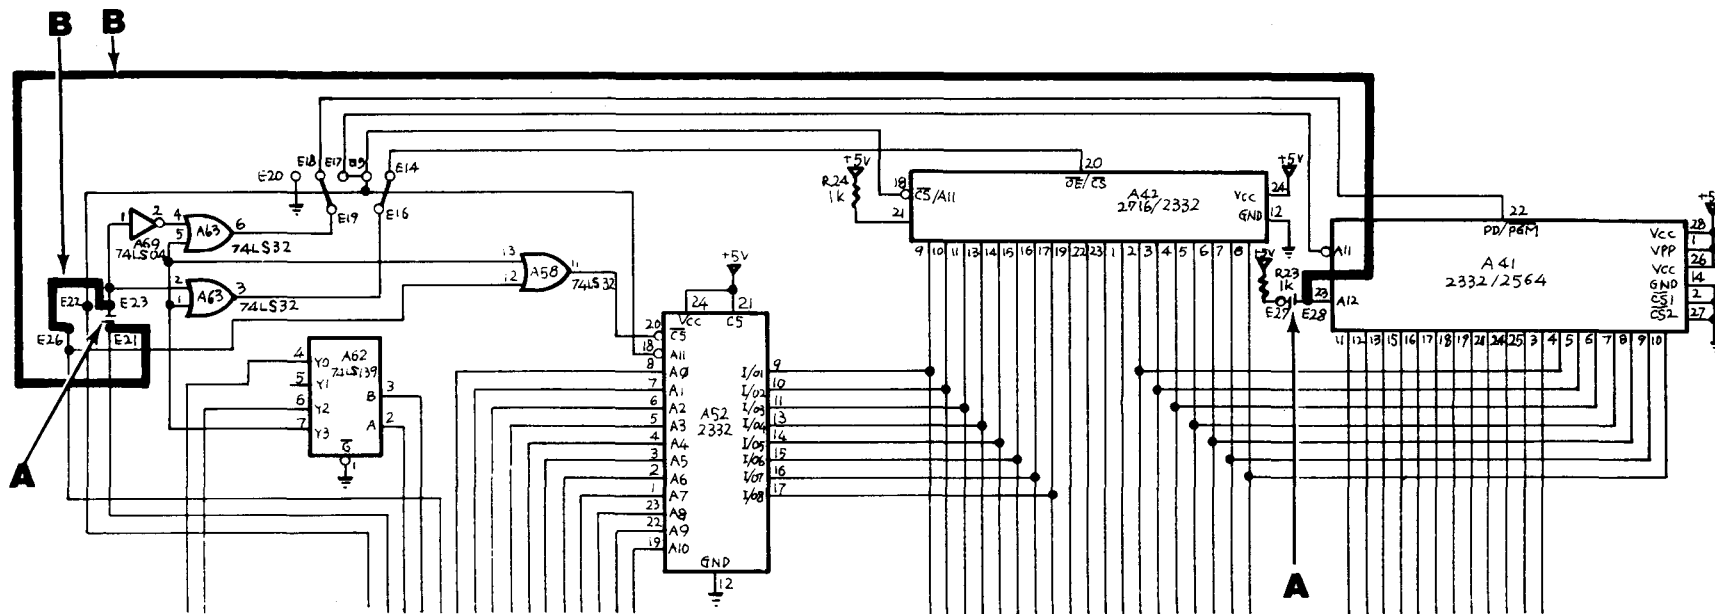

Figure 21-1 Revised Logic Board Schematic, Page 1 of 7
1. Cut the following traces which are located on the solder side of the logic board (as shown in Figure 21-1):
2. Install the following jumpers (as shown in Figure 21-1):
3. Remove the ROM which is located in position A41 (Figure 21-1).